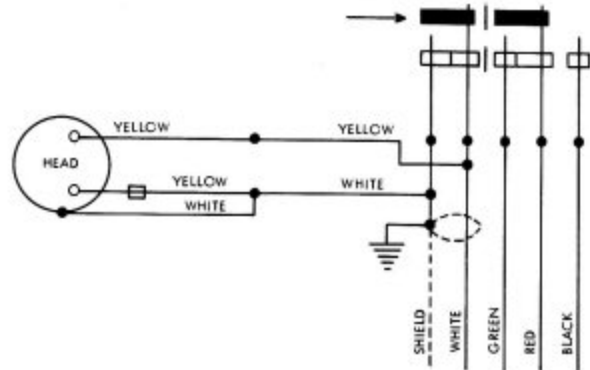

Figure 2 – Wiring Diagram
6. Rotate the red switch bar 90-degrees. Insert tab "F" on switch bar in slot "T" on switch assembly (Figure 2). Squeeze legs "D" together and insert in slot on switch bar.